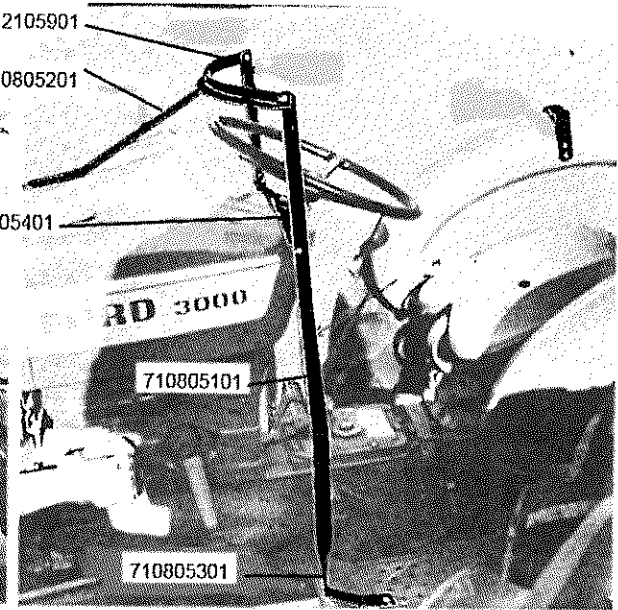

Figure 2
3. Attach # 710805301 LH Door Post Bottom to the left foot rest at the first and second holes in the outside row on the flat part of the foot rest using 5/16x1" hex bolts and nuts. **DO NOT TIGHTEN BOLTS AT THIS TIME.** See Figure 2